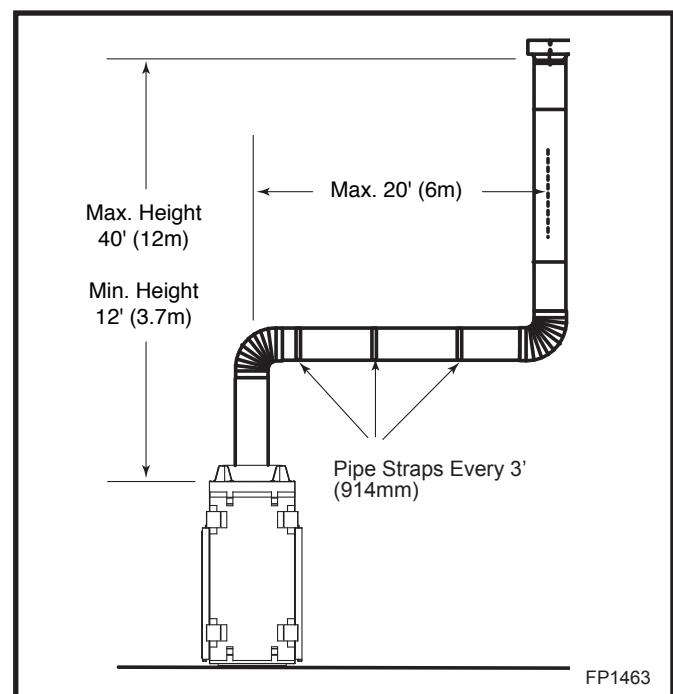
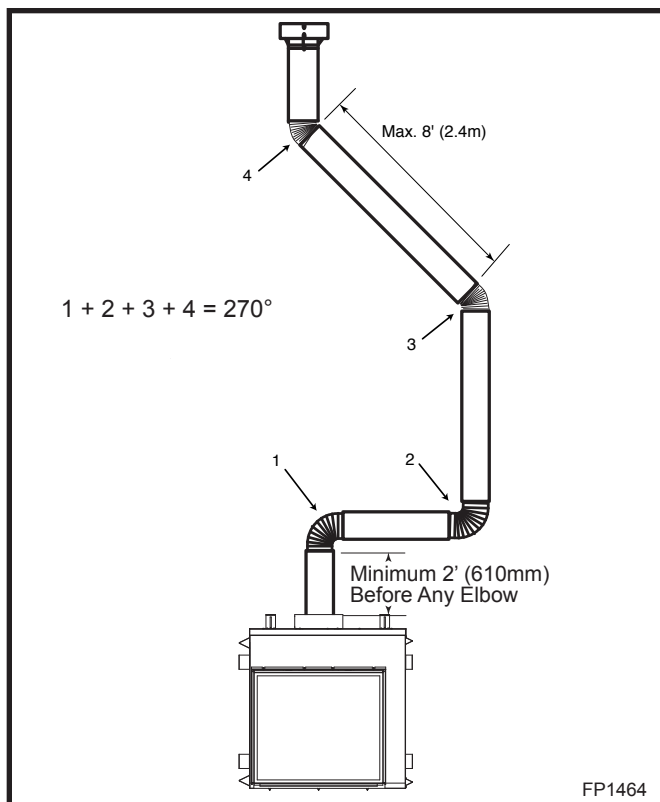

Fig. 32 Support straps for horizontal runs.
Fig. 33 Typical offset application.
- Vertical installations up to 40' (12 m) in height. Up to a 20' (6 m) horizontal vent run can be installed within the vent system using a maximum of three (3) 90° elbows. (Fig. 32)
- A 2' (610 mm) vertical section must be installed before any offset. A maximum of 20' (6.1 m) horizontal and three (3) 90° elbows may be installed with a minimum of 12' (3.66 m) vertical section above the flue collar of the unit. (Fig. 32)
- Up to two (2) 30° or 45° elbows may be used within the horizontal run. For each 30° or 45° elbow used on the horizontal level the maximum horizontal length must be reduced by 18" (457 mm).
- Two sets of 30° or 45° elbows offsets within these vertical installations. From 0 to a maximum of 8' (2.4 m) of vent pipe can be used between elbows. (Fig. 33)